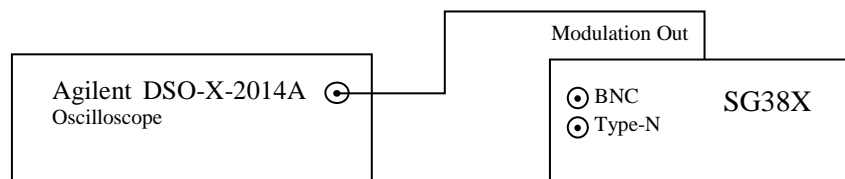

Figure 7: Setup for modulation output test.
This test verifies the operation of the modulation engine and the modulation output. It does not test to any specifications. This test requires the setup shown in Figure 7
1. Connect the equipment as shown in Figure 7.